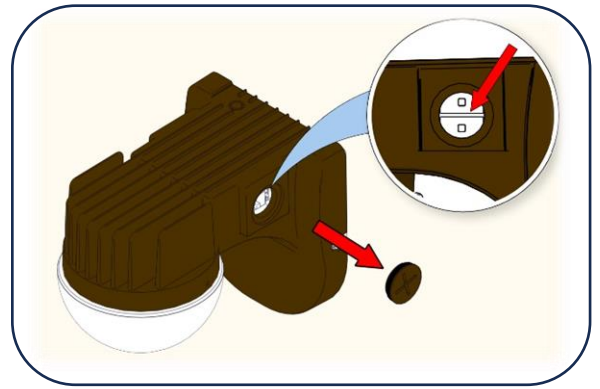

Figure 4
1. Remove the side conduit plug. [Figure 4]